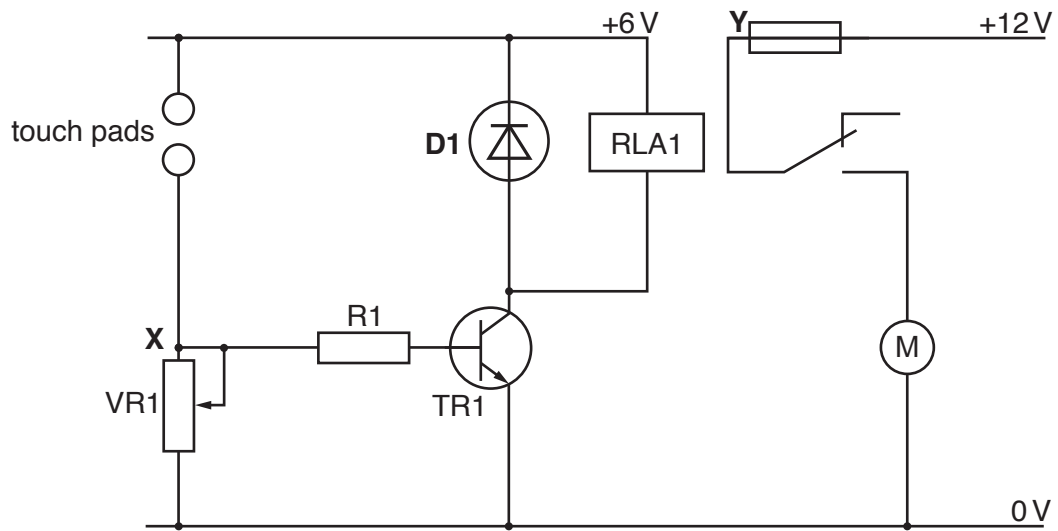

Fig. 14
(b) Fig. 14 shows a touch pad sensor circuit used to operate a motor.
- (vi) Give the name of component **Y** in Fig. 14.